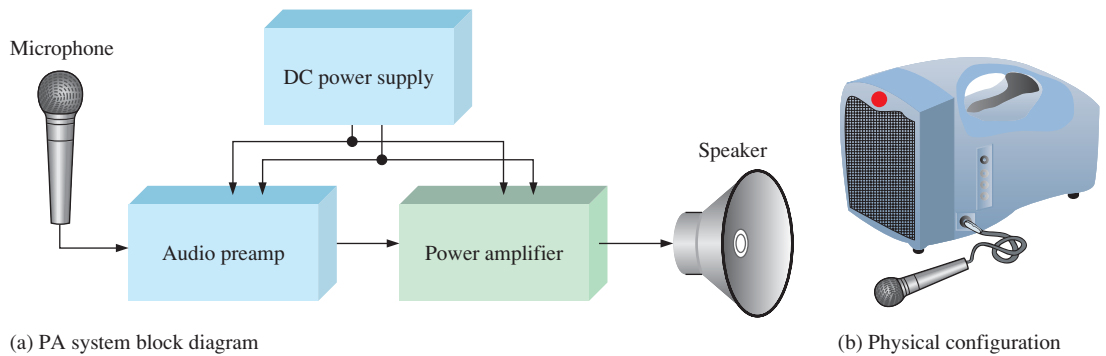

FIGURE SE5-3
In this system example we will look at a power amplifier that can be used in a public address (PA) system in conjunction with the low-noise JFET preamp from System Example 4-2. A block diagram of the PA system is shown in Figure SE5-3. The power amplifier will deliver up to 6 W to an 8 Ω speaker and have a frequency bandwidth of 70 Hz to 5 kHz.